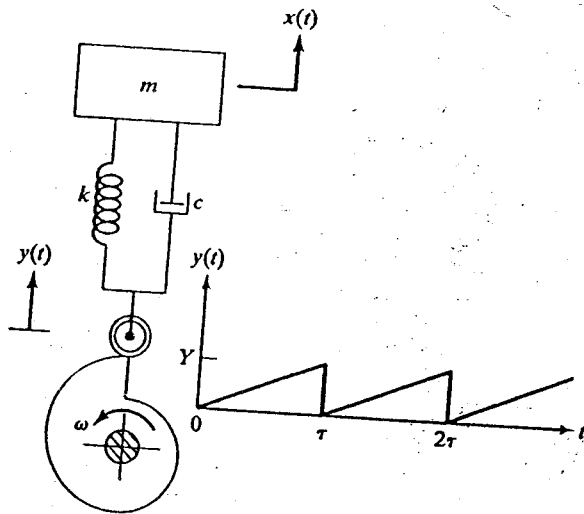

FIGURE 4.32
4.8 The base of a spring-mass-damper system is subjected to the periodic displacement shown in Fig. 4.32. Determine the response of the mass using the principle of superposition.